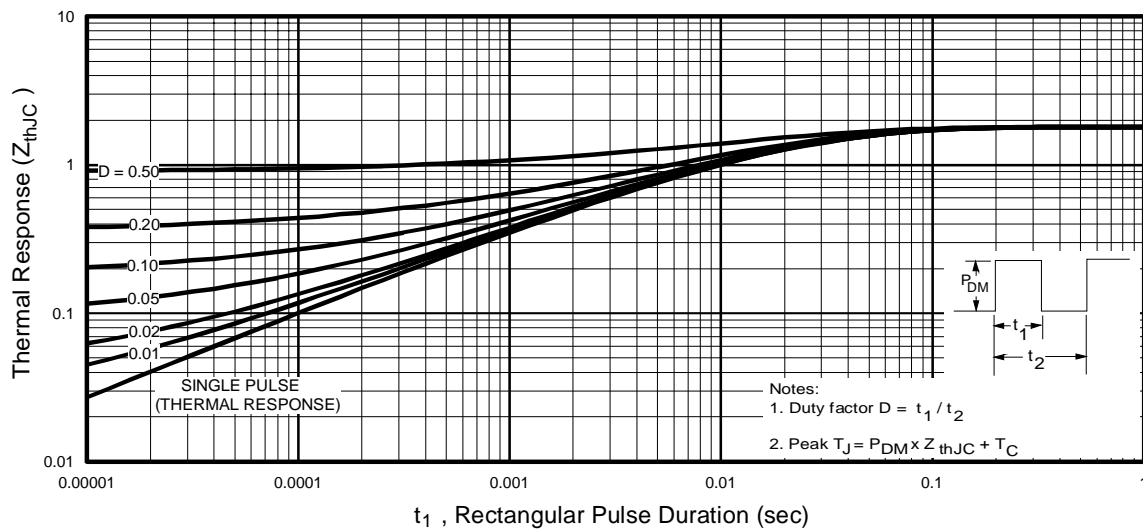

Fig 11. Maximum Effective Transient Thermal Impedance, Junction-to-Case
- ① Repetitive rating; pulse width limited by max. junction temperature. (See fig. 11)
② Starting $T_J = 25^\circ\text{C}$, $L = 14mH$